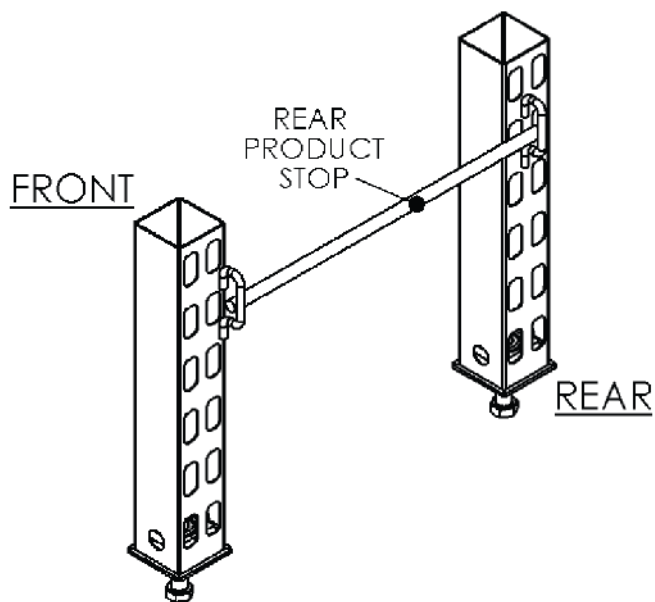

Figure 37
3. Install rear product stops (as required) after stocking shelves. Insert rear-product stop ends into rear post slots at desired height. R Refer to Figure 37 .